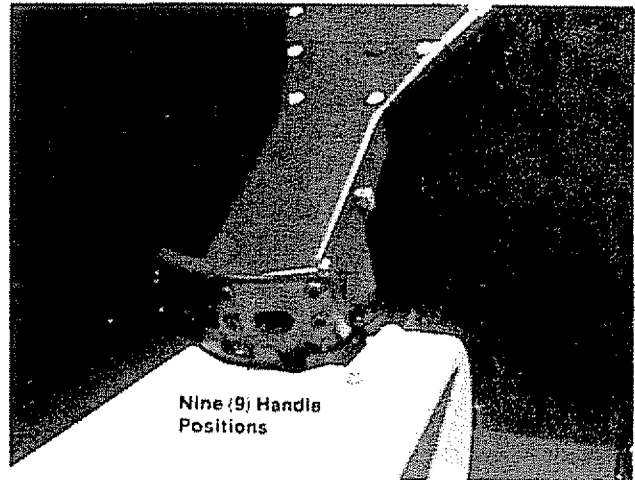

FIGURE 28.
A Squeeze up on handle adjustment lever and place the handle in one of nine (9) positions. See figures 28, 29, 30 and 31.
Figure 28 is viewed from the front of tiller for clarity.